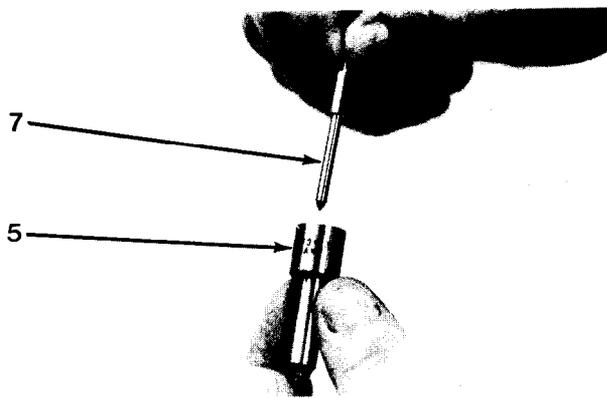

Figure 7-4
4. Submerge nozzle tip (5) in container of clean diesel fuel and remove needle valve (7, Figure 7-4) from nozzle tip (5). Needle valve (7) and nozzle tip (5) are matched for fit. They must not be intermixed.